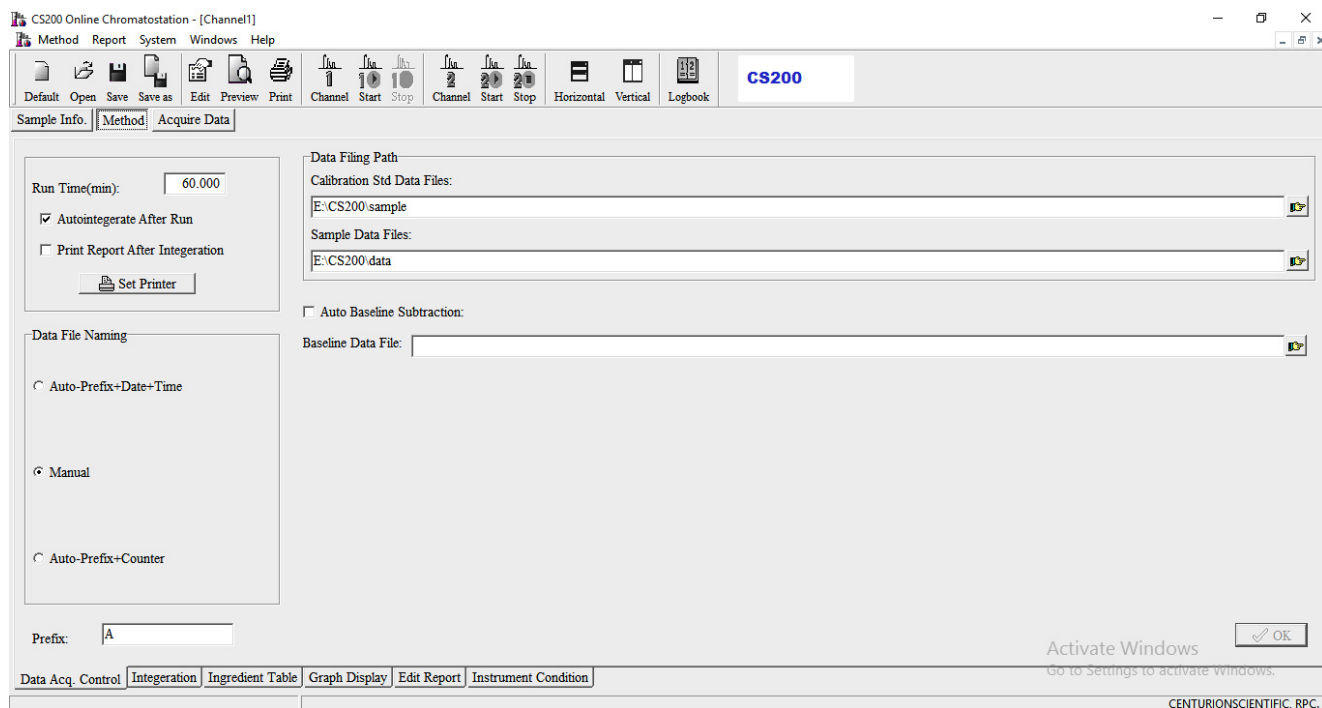

Figure C-210. Dialog box for Data Acquisition Control
3. The Dialog Box for acquiring the data appears as shown in Figure C-210.